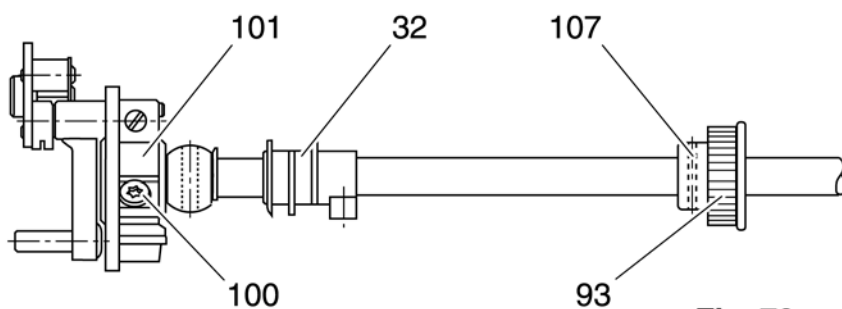

Fig. 79
- Turn the handwheel until the fastening screw of the synchronizer control cam 32 faces downwards (fig. 79).